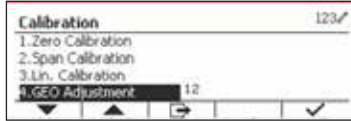

Figure 21
2. Scroll to GEO Adjustment using the softkey corresponding to the ▼ icon. (See Figure 21)